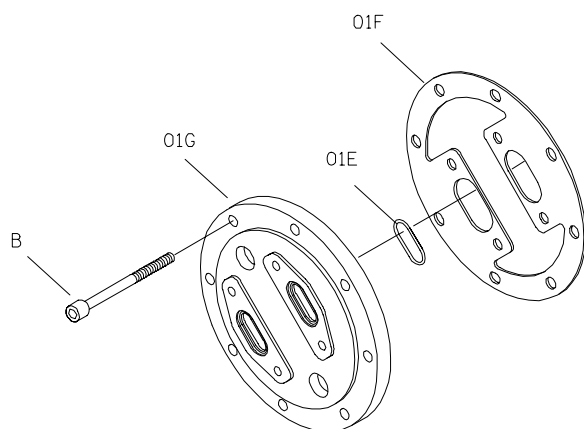

Figure E-2. Typical Head Jacket Assembly
If your pump is equipped with an optional head jacket, see Figure E-2 and remove the capscrews (B) securing the head jacket (01G), gaskets (01F and 01B) and O-rings (01E) to the head assembly (01A, Figure E-1).
(Figure E-2 And E-3)
If your pump is equipped with an optional head jacket, see Figure E-2 and install the O-rings (01E) in the grooves in the head (Figure 1, 01A).